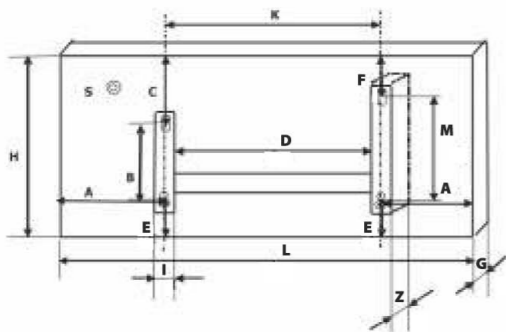

Fig. 2
Overall dimensions of the convector heater according to Fig. 2 are shown in Table 2
Installation dimensions of the convector heater according to Fig. 2 are shown in table 3.
3. In accordance with Fig. 2, 4 and tables 2, 3 specify a place for convective installation with observance of minimum distances from objects and minimum distance from the floor.